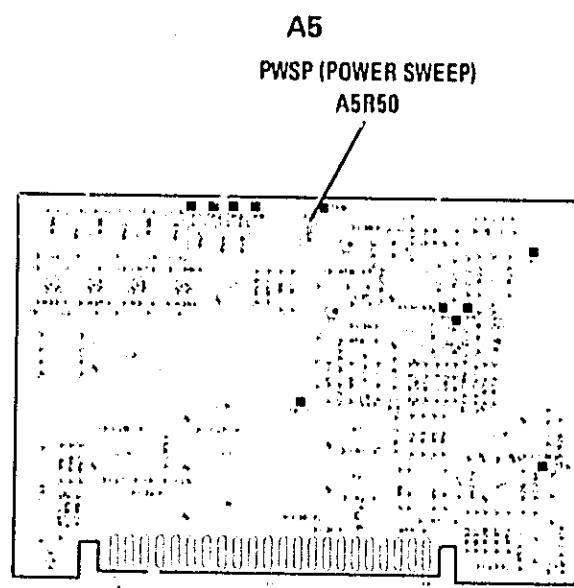

Figure 5-28. Power Sweep Adjustment Location
4. While observing 8755C display of RF output, adjust A5R50 PWSP (power sweep) (Figure 5-28) for 10 dB/sweep.